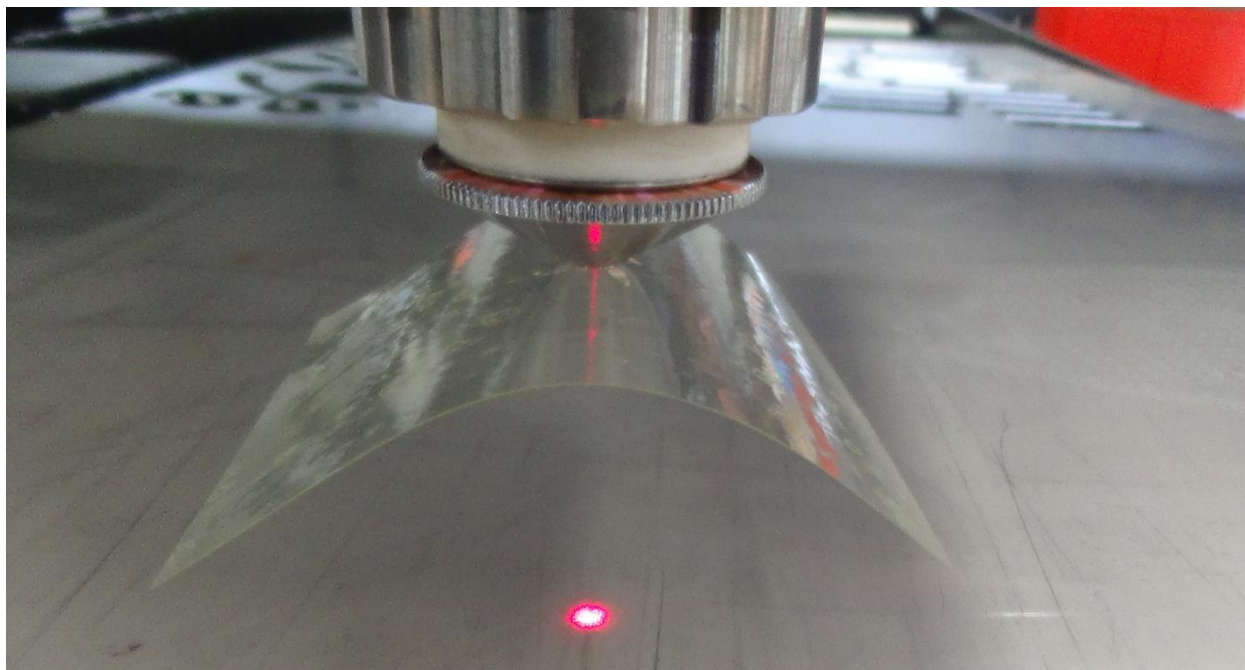

Figure 4-2 Schematic Diagram of Dimming Method
2. Paste the cellulose tape evenly to the end face of the nozzle with your thumb (as shown in Figure 4-2).